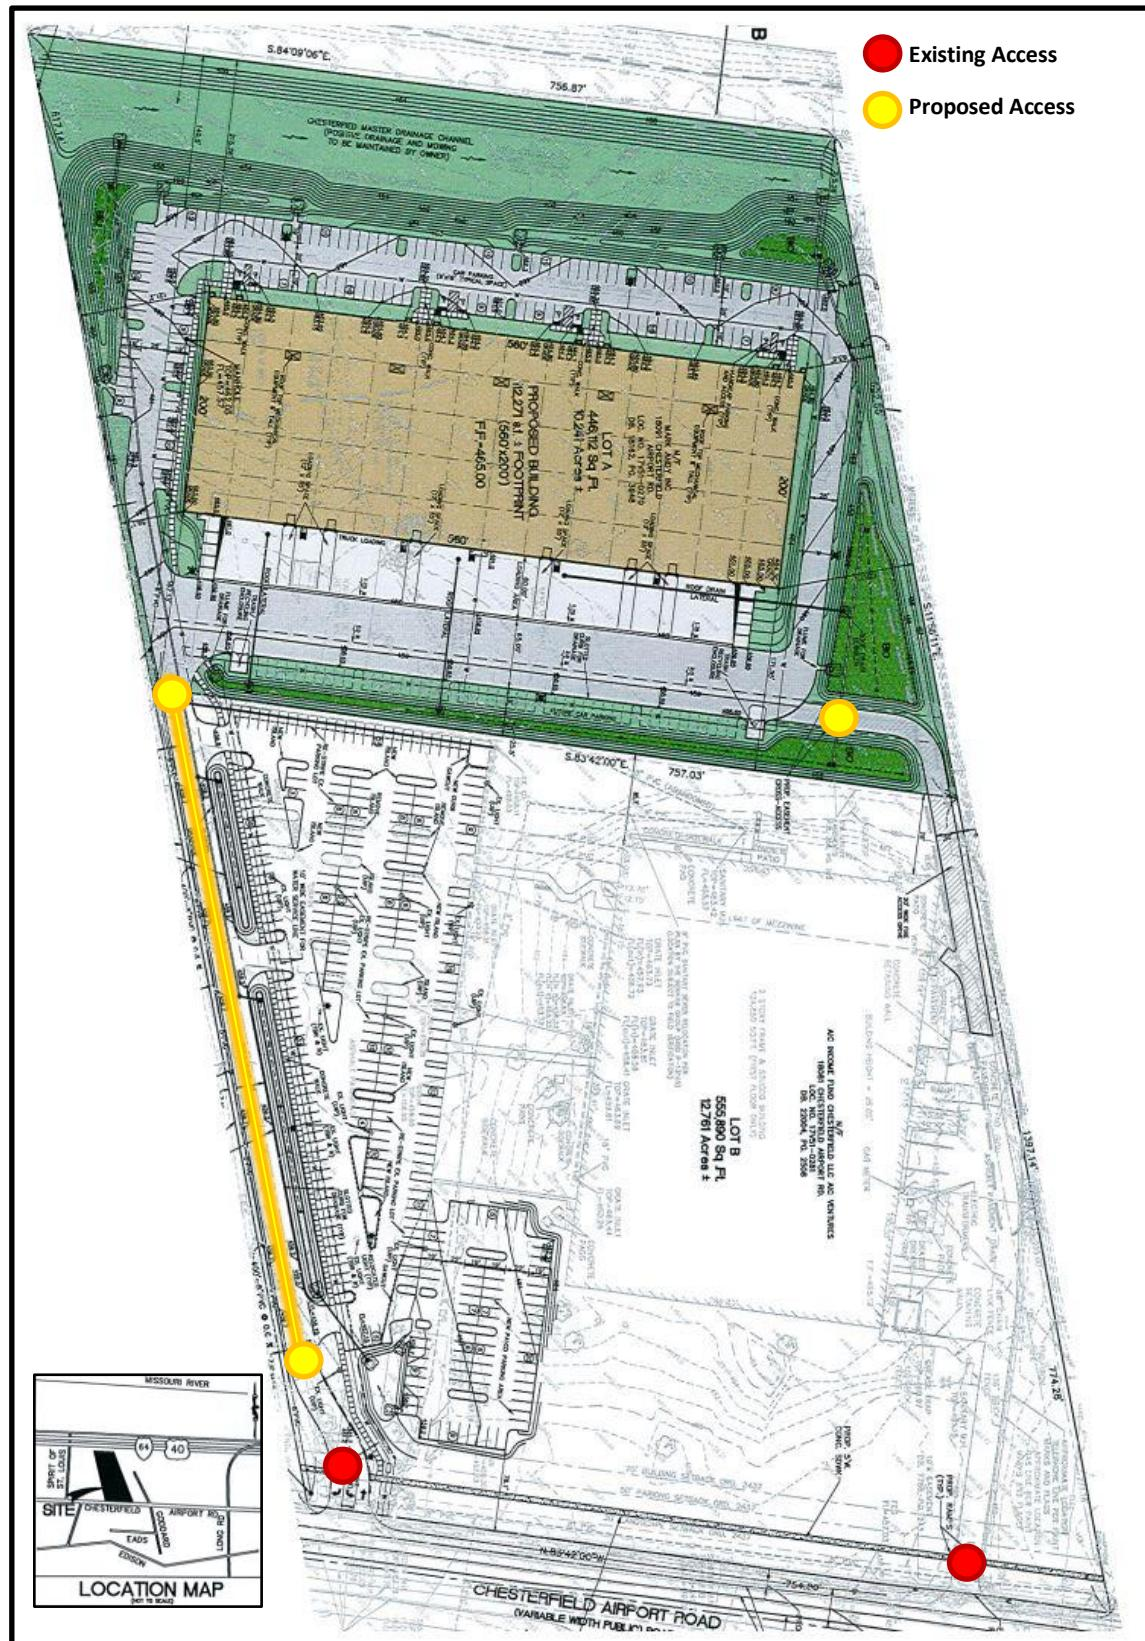

Figure 2: Color Site Development Section Plan Excerpt
Although Lot B currently has two (2) dedicated entrances, Lot A will be served by the entrance to Chesterfield Airport Rd. on the southwest corner of Lot B, as well as a secondary entrance to the east through Lot B. Per Ordinance 2437, this entrance is to be improved with the development of Lot A. Additionally, a cross-access easement is proposed to the southeast of Lot A for potential access to the cul-de-sac of N. Goddard Ave. This fulfills a requirement set in the governing ordinance regarding circulation and access and can be seen on Figure 2 below.